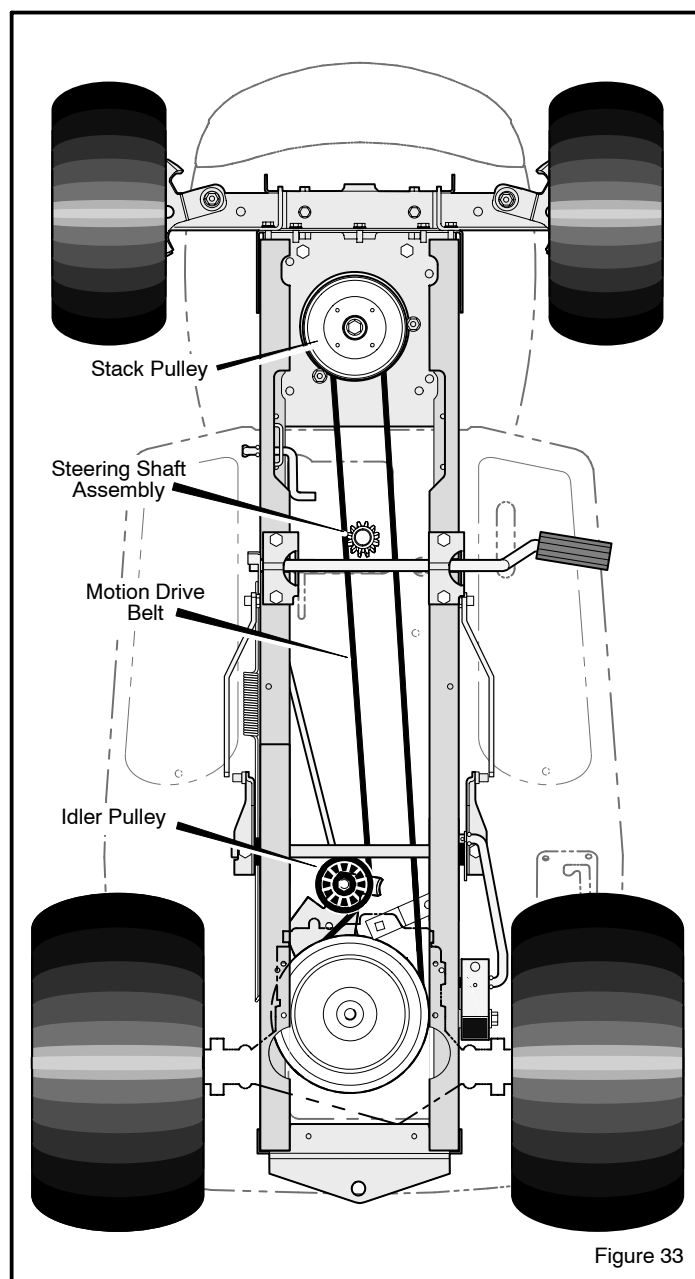

Figure 33
5. Put the belt around the **idler pulley** (Figure 28, Figure 33). Assemble the **idler pulley**. Fasten the **idler pulley** with the hex nut. Make sure the flat side of the belt is against the **idler pulley**. Also, make sure the belt is not twisted.
10. Check the routing of the motion drive belt. Make sure the **motion drive belt** is installed correctly on the **idler pulley**. Make sure the **steering shaft assembly** is inside the **motion drive belt** (Figure 33).